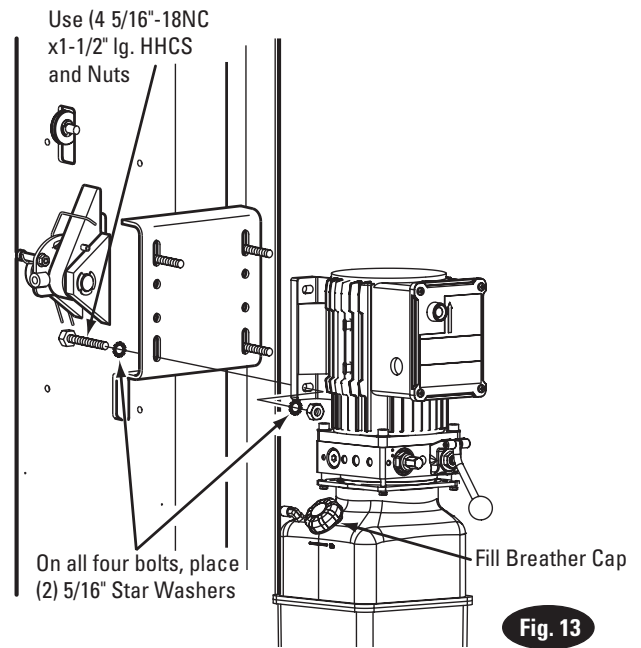

Fig. 13
12. Power Unit: First install a star washer onto all of the (4) 5/16"-18NC x 1-1/2" HHCS. This is very important for grounding. Put the (4) 5/16"-18NC x 1-1/2" HHCS thru holes in power unit bracket, Fig. 13. Mount unit with motor up to column bracket and install (4) 5/16" star washers and 5/16" Nuts. Install and hand tighten fitting to pump until O-ring is seated. Continue to tighten the locknut until the nut and washer bottom out against the pump manifold.